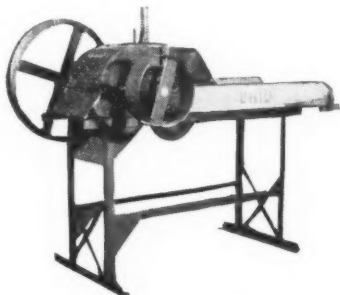

Fig. 1. The "Ohio" Feed Cutter.
**D**ESPITE the fact that costs have greatly increased in the past two years, the material costs of our "Ohio" Feed Cutter (Fig. 1) are no more today than on V-J day, due to the savings we have gained by changing to welded steel design.